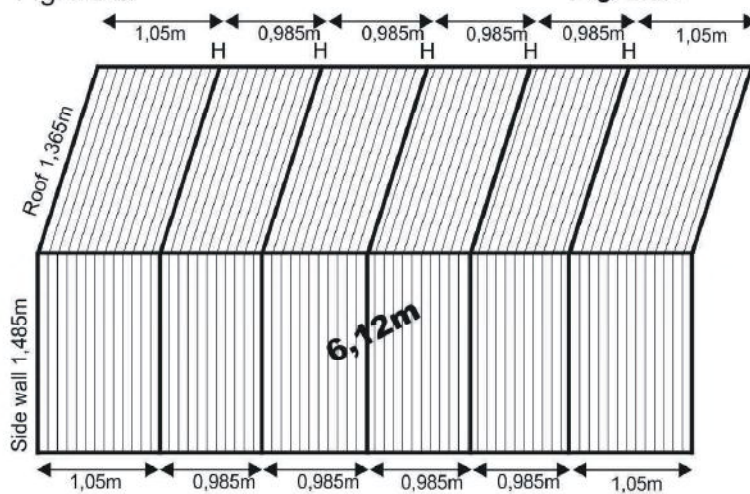

Fig. 21.5
6.12 m length: 1.05+0.985+0.985+0.985+0.985+1.05 m (Fig. 21.5), and etc. €